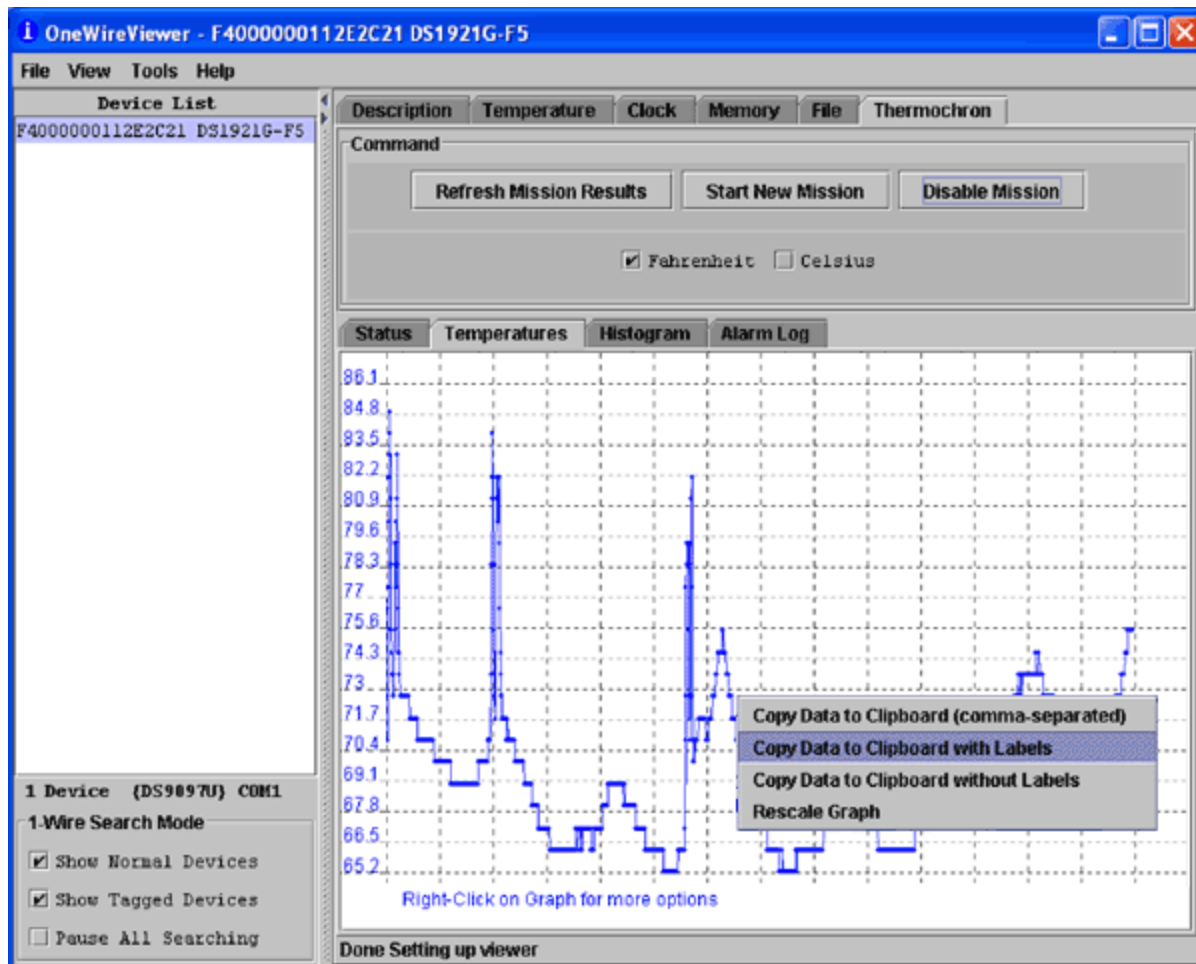

Figure 3. When you have your data graph, you can copy that data to the clipboard with a simple right click of the mouse.
9. Select the "Copy Data to Clipboard with Labels" line, and click on it (**Figure 3**) to save the data to the Clipboard.